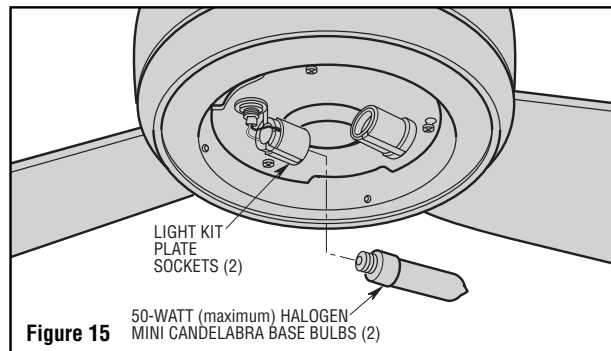

Figure 15
1. Screw in two 50-watt (maximum) halogen mini candelabra base bulbs in the light kit plate sockets (Figure 15).